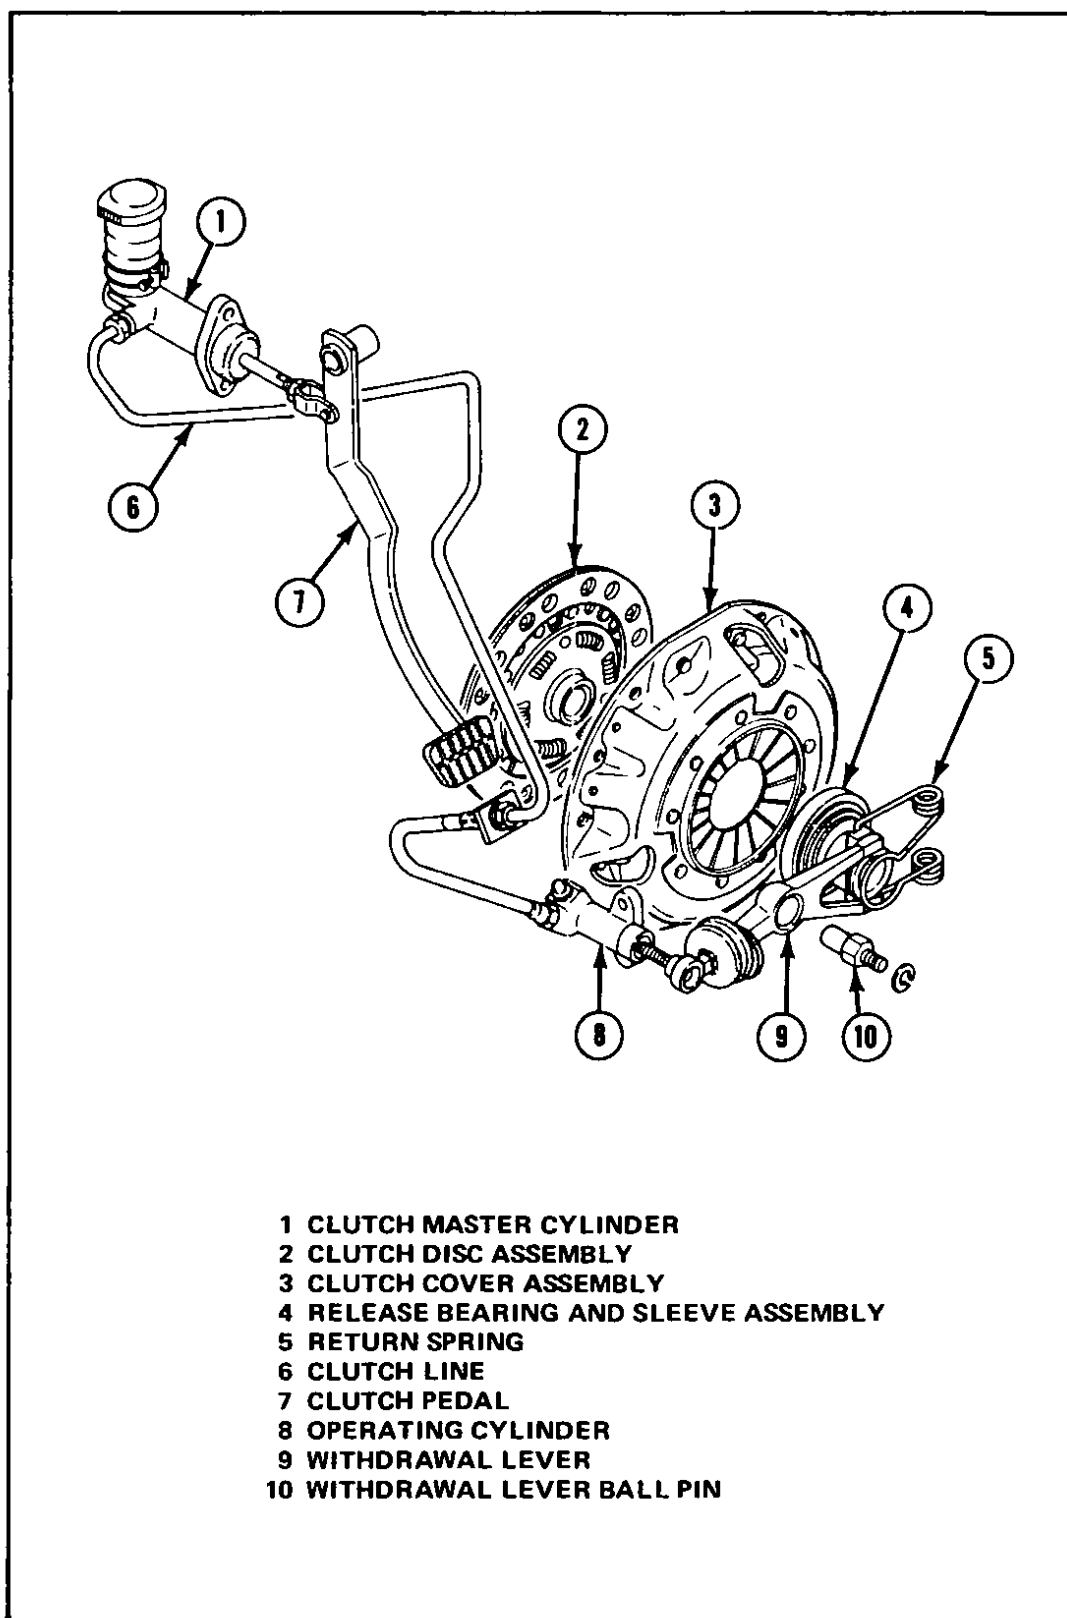

Fig 140 Clutch operating system
- 1 Loosen the locknut and push nut located at the connection of the operating cylinder and withdrawal lever, Figs 140 and 141. Adjust the length of the push rod by turning the push rod with an open end wrench until the release bearing lightly touches the diaphragm spring.